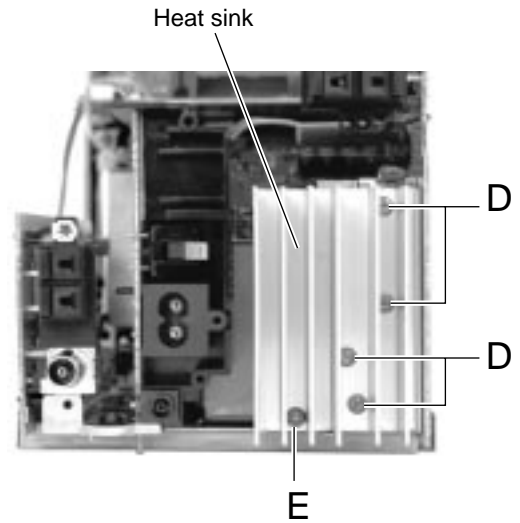

Fig. 9
■ Removing the power amplifier board and heat sink (See Fig. 9 to 11)